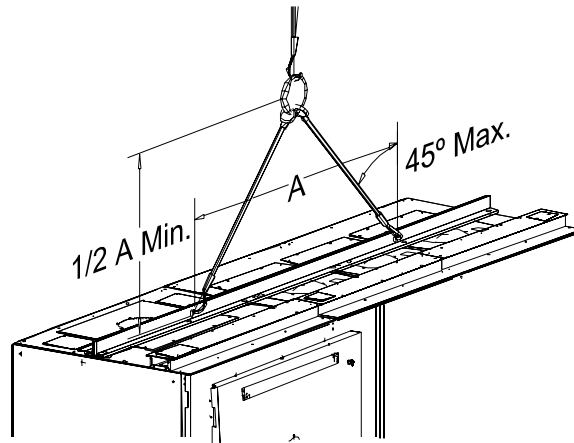

Figure 1 – Overhead Lifting with a Rigging Apparatus
4. To reduce the tension of the rigging and the compressive load on the lifting device, do not allow the angle between the lifting cables to exceed 45 degrees from the vertical plane. (See Figure 1)